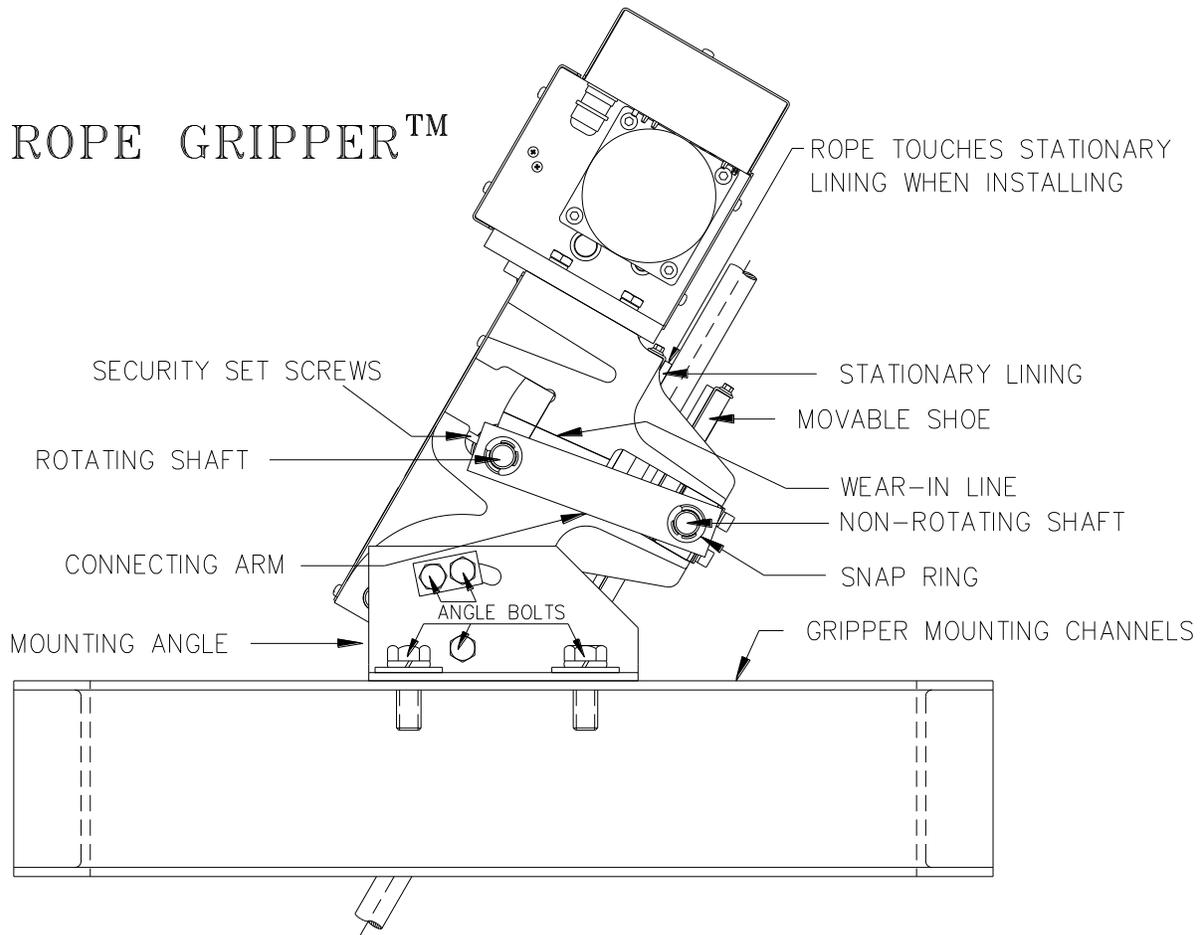
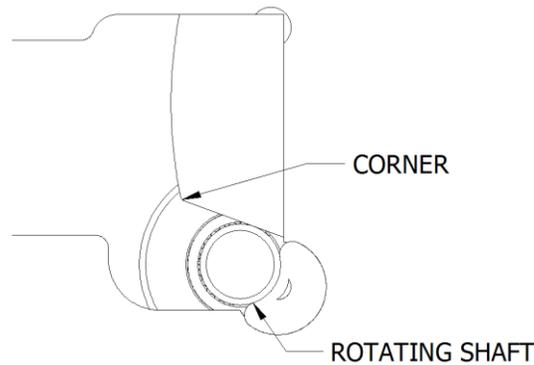

Figure 1
Figure 5
- Be sure security set screws are holding the rotating shaft in the LOADED (open) position as shown in Figure 1 above.
A line has been marked on the side wall of the gripper to aid in the Wear-In process. *Note that at this point in the procedure, this line is well **above** the Connecting Arm and will be met or covered by the Connecting Arm during the Wear-In process (see Figure 1 for locations of Connecting Arm and Wear-In Line).*
- As the linings wear in, the rotating shaft will move up the cam slot and around the corner of the cam noted above (Figure 5), and the connecting arms (see Figure 1) will move up the side wall and begin to match or line up with the wear-in line marked on the side wall.